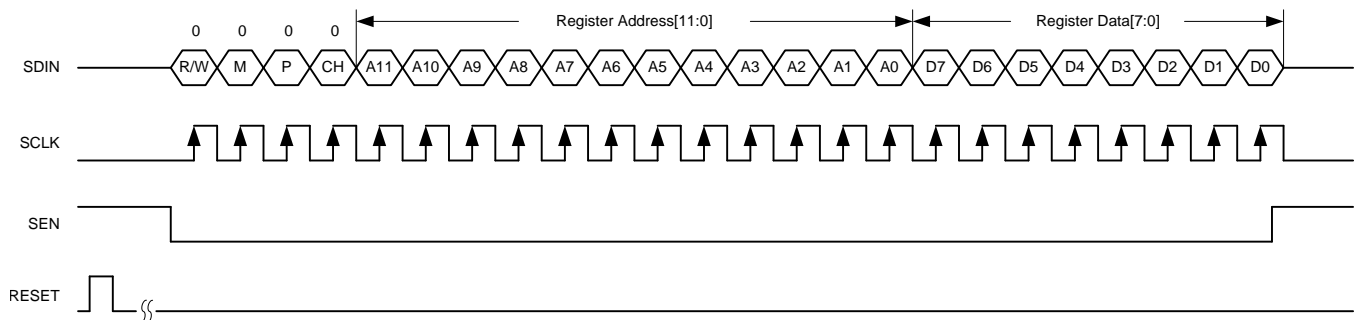

Figure 69. Serial Register Write Timing Diagram
3. Writing the register content as shown in Figure 69. When a page is selected, multiple writes into the same page can be done.